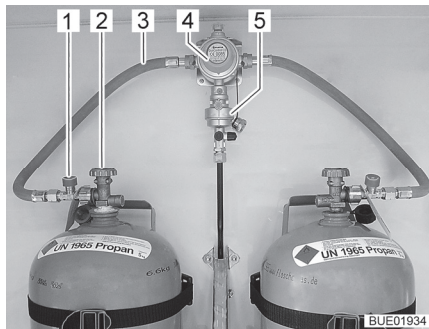
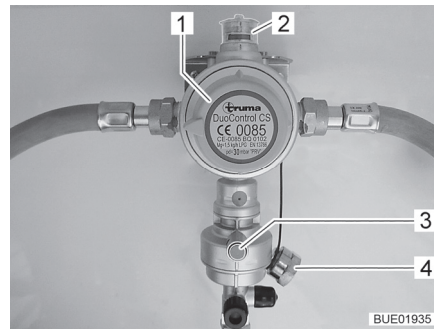
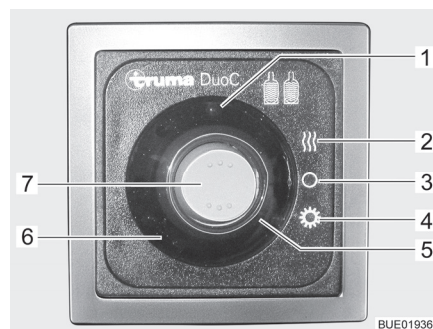

Fig. 43 Gas bottles with DuoControl
Fig. 44 DuoControl regulating system
Fig. 45 Operating unit (DuoControl)
The DuoControl regulating system consists of a reversing valve (Fig. 43,4) and a crash sensor (Fig. 43,5). The DuoControl regulating system is installed between the gas tubes (Fig. 43,3) with hose break guard (Fig. 43,1). The knob (Fig. 44,1) on the reversing valve is used to select which of the gas bottles is to be used as primary bottle and which is to be used as reserve bottle.
The status of the gas supply is indicated in the inspection window (Fig. 44,2):
The operation with only one gas bottle is allowed but in this case the open connection must be closed with a blind cover (Fig. 44,4).
The crash sensor blocks the gas supply in the event of a significant impact (e.g. accident). The crash sensor is put into operation with the green reset button (Fig. 44,3).
The hose break guard (Fig. 43,1) blocks the gas flow if the connected hose breaks. The hose break guard must be activated by pressing the green button.
At the operating unit (Fig. 45), the gas supply via the DuoControl regulating system is switched on and off. The regulator taps (Fig. 43,2) of the gas bottles and the gas isolator taps of the devices must be opened manually.
Summer and winter operation are switched with the rocker switch (Fig. 45,7) on the operating unit.
The two indicator lamps on the operating unit indicate the level of the primary bottle. When the green indicator lamp (Fig. 45,6) is lit, the primary bottle is sufficiently filled. When the red indicator lamp (Fig. 45,5) illuminates, the primary bottle is empty. In this case, the reserve bottle is used for the gas supply.
- Use the knob (Fig. 44,1) on the reversing valve to select the gas bottle which is to be the primary source of gas (primary bottle). Always turn the knob as far as it will go.
- Open regulator taps (Fig. 43,2) on the gas bottles.
- Press the green button of the hose break guard (Fig. 43,1). The green marking is shown in the inspection window (Fig. 44,2).
- Switch on the DuoControl regulating system at the operating unit (Fig. 45). To do so, set the rocker switch (Fig. 45,7) to winter operation (Fig. 45,2) or to summer operation (Fig. 45,4). The yellow defroster indicator lamp (Fig. 45,1) is lit when winter operation is selected.
- Set the rocker switch (Fig. 45,7) to the OFF position (Fig. 45,3). The indicator lamps go out.
- Close regulator taps (Fig. 43,2) on the gas bottles.
If the green indicator lamp (Fig. 45,6) goes out during operation and the red indicator lamp (Fig. 45,5) lights up, the primary bottle is empty and must be changed. The red marking is shown in the inspection window (Fig. 44,2). The reserve bottle continues supplying the gas appliances with gas.
- Turn the knob (Fig. 44,1) a half turn in the direction of the currently used gas bottle. In this way, this gas bottle is the primary bottle now, and the empty gas bottle becomes the reserve bottle. The marking in the inspection window (Fig. 44,2) changes from red to green.
- Close regulator tap (Fig. 43,2) on the empty gas bottle. Pay attention to the direction of the arrow.
- Press the green button of the hose break guard (Fig. 43,1).